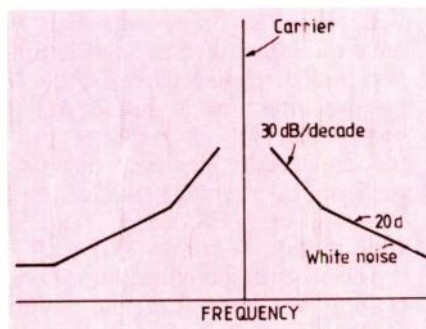
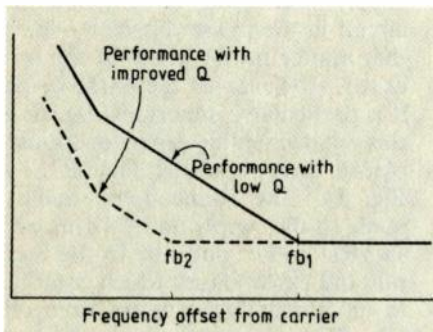

Fig. 4. Noise performance of typical VCO.
Fig. 12. Reduction in break-point frequency  $f_b$  by increasing tuned-circuit Q.
important because the performance of the synthesiser outside the loop bandwidth is governed by it. Furthermore, decisions about the loop bandwidth, and even sometimes the phase detector comparison frequency, may depend on the performance which can be obtained. Figure 4 shows a typical VCO noise performance; at large offsets from the carrier the noise is flat; closer in towards the carrier it rises. Initially the slope is 20dB/octave, increasing to 30dB and more, closer in.
**Closer in.** Closer in towards the carrier the noise rises, as shown in Fig. 4. To minimise the noise it is again necessary to have the oscillator circuit optimised for its signal-to-noise performance. In addition, the loaded Q of the tuned circuit must also be as high as possible. Figure 12 shows how an improvement in the Q by a factor of two will result in the break frequency  $f_b$  being brought in to half the offset from the carrier.